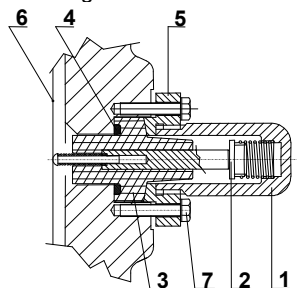

Fig. 17
Normally the measurement (C1) must be carried out between the HV terminal and the Power Factor tap (schematised in fig. 17).
It is advisable to check that the cap of the PF tap (see fig. 17) is well screwed. A forgetfulness of this generates during service a voltage on the tap that exceeds the insulation dielectric strength: this may lead to a catastrophic failure.
Don't unscrew the screws item 7 of fig. 17, that fix the PF flange to the bushing.
Check the proper location of the tap cap and its suitable complete screwing to prevent entrance of moisture (Fig. 17).